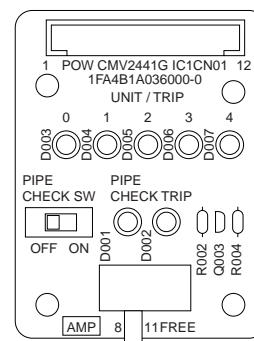

Fig. 9
A switch is located on the terminal plate of the outdoor unit. Installers should set the switch for the necessary current referring to Fig. 9 and Table 3)
After tubing and wiring connections are completed, following air purging with a vacuum pump, be sure to confirm once more that all tubing has been carried out correctly. This can be done with the Tubing Checker function on the terminal plate of the outdoor unit (Fig. 9). It also confirms the correct operation of all expansion valves.
- (1) Turn the main power ON. (Before turning the power ON, confirm that the Tubing Check Switch is OFF.)
- (2) Turn the Tubing Check Switch on (Green lamp illuminates / "PIPE CHECK" in Fig. 9)